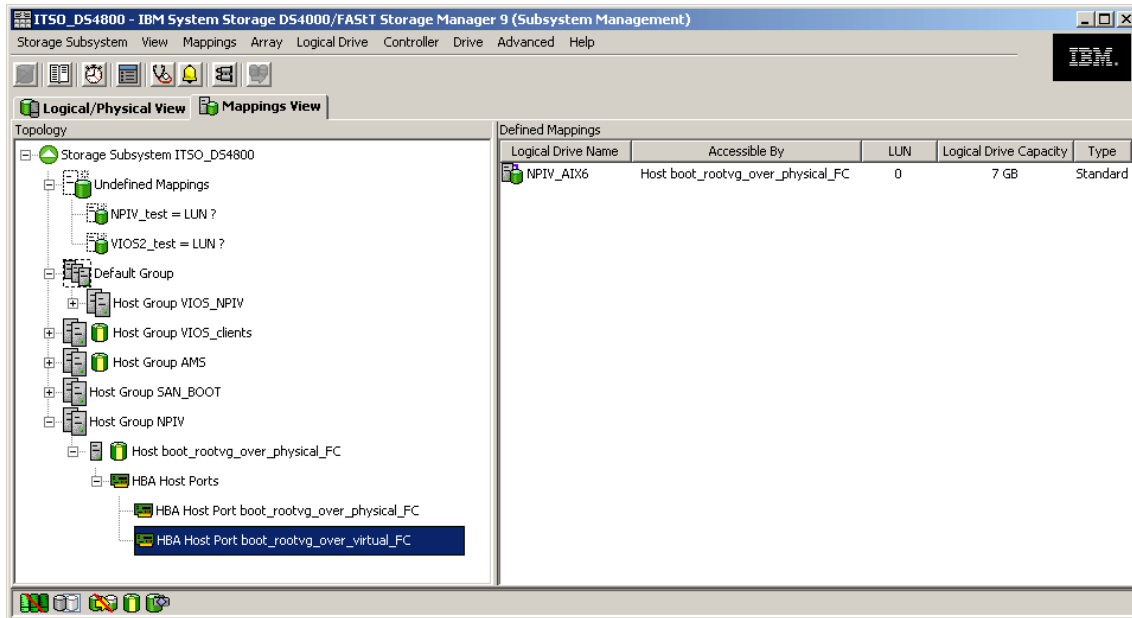

Figure 2-49 Add new host port
21. Add a new host port for the WWPN to the DS4800 as shown in Figure 2-49.